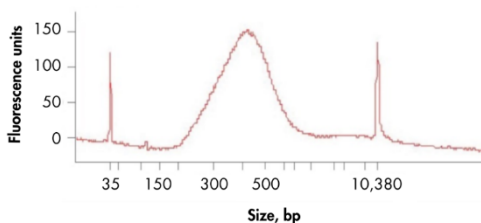

Figure 3. BioAnalyzer trace of library prepared with the QIAseq FastSelect RNA Library Kit.
13. Assess the quality of the library using the QIAxcel Connect, Agilent BioAnalyzer, TapeStation[®], or Fragment Analyzer. Check for the expected size distribution of library fragments. An example library is shown in Figure 3.